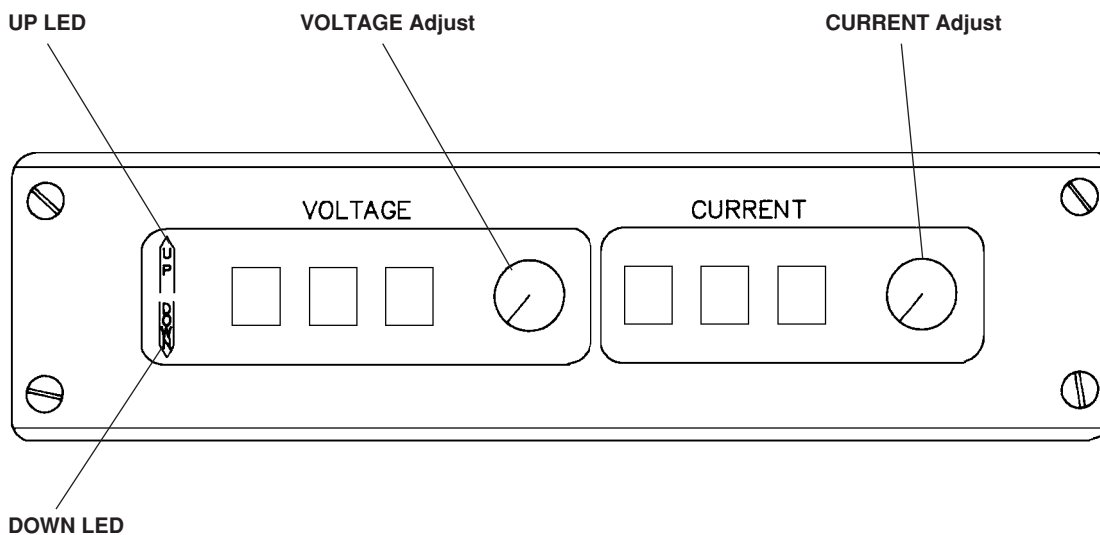

Figure 6-3 Digital Remote (DR) V/C Front Panel Controls and Indicators
Digital Remote (DR) V/C Module (Fig. 6-3)